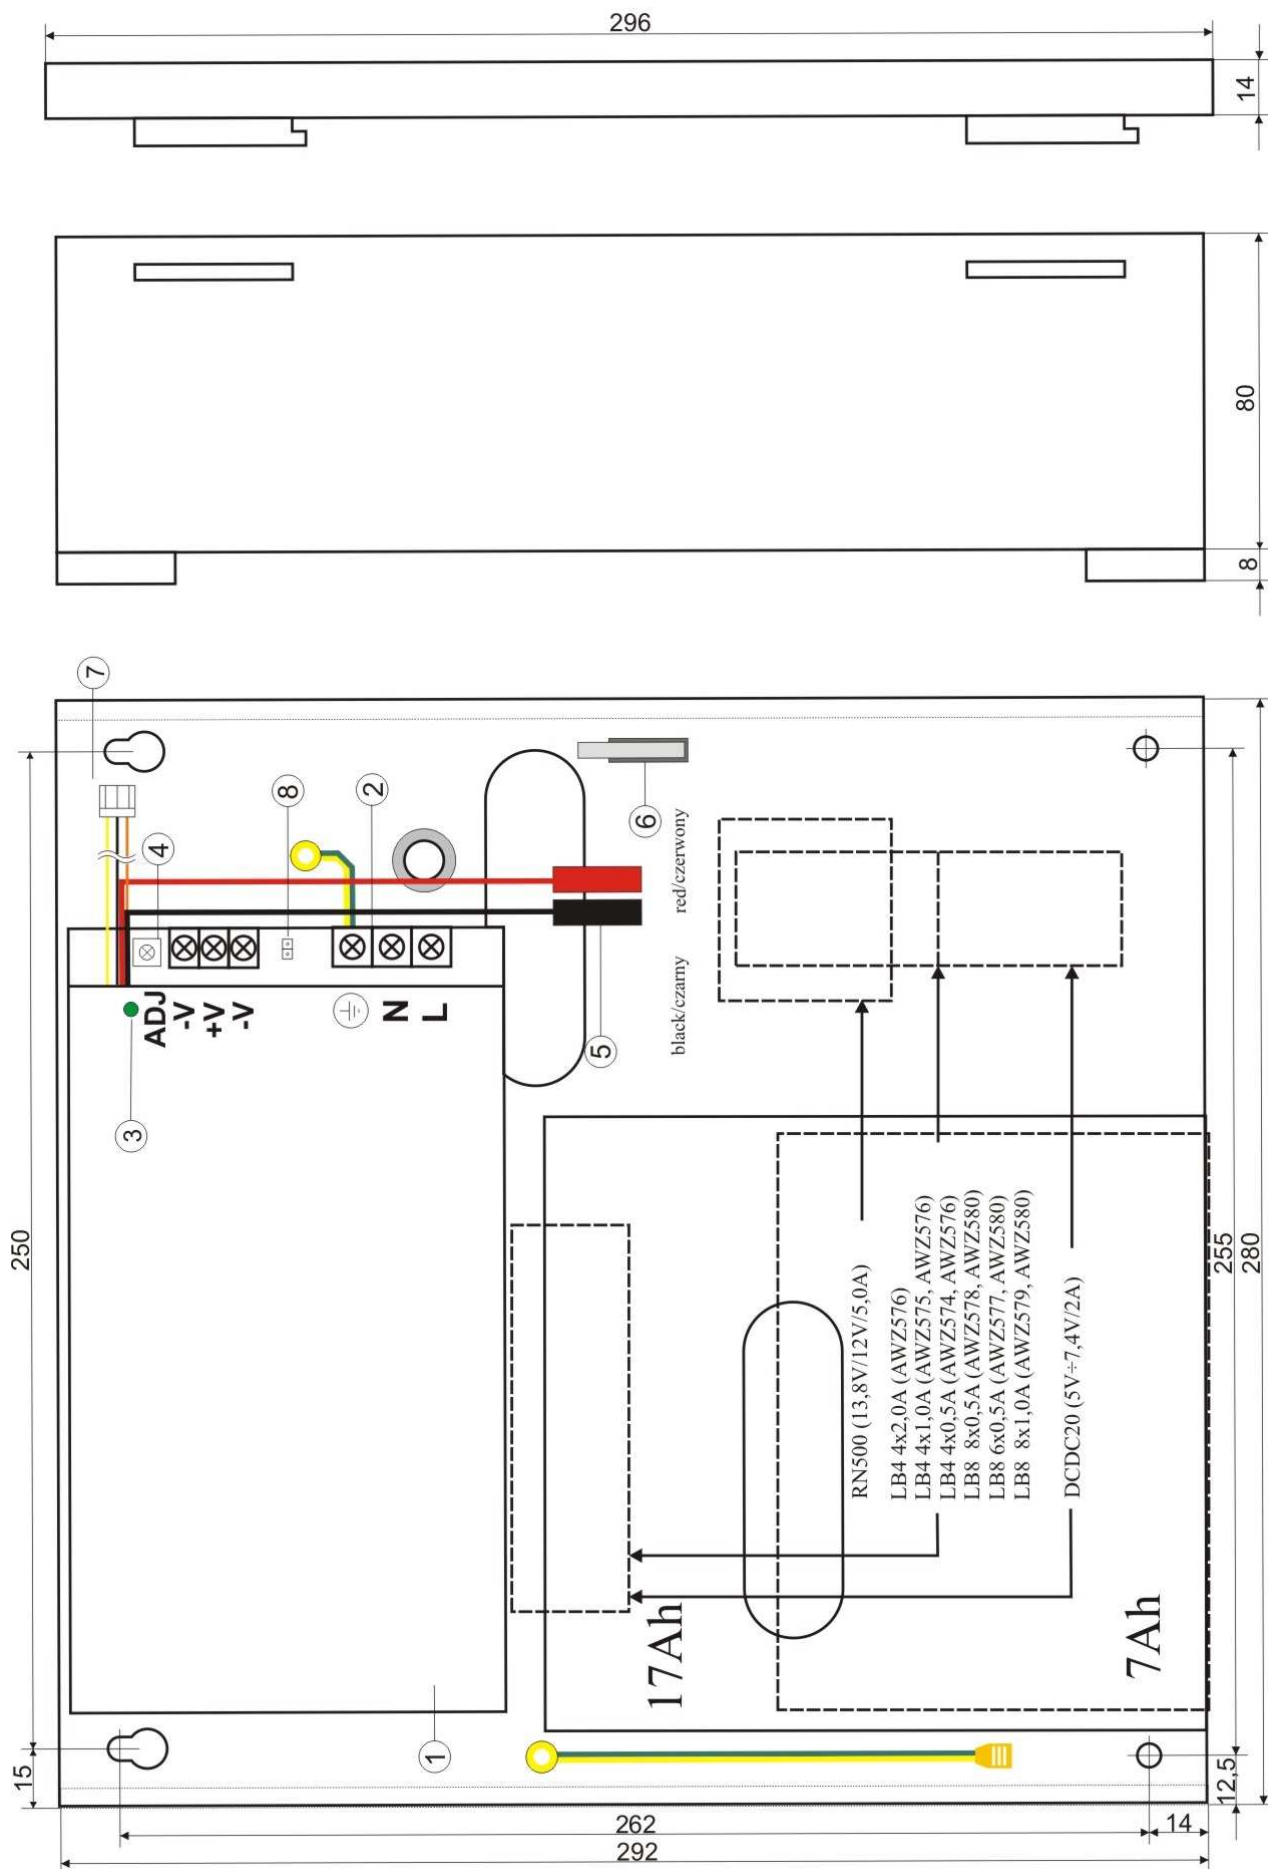

Fig.2. The view of the PSU.
1.3 Description of PSU components and connectors (tab.1, tab.2, fig.2).
Part no. [Fig. 2]	Description
Part [Fig. 2]	Description
Fixation	See figure 2